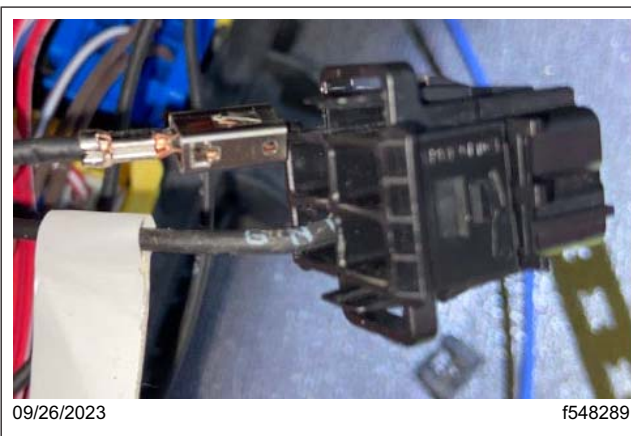

Fig. 21, Inserting the Longer Black Wire into Cavity 1 of the X10 Connector
8.5 Insert the longer black wire that was routed to the X10 connector in step 7 into cavity 1 of the X10 connector. See Fig. 21 .